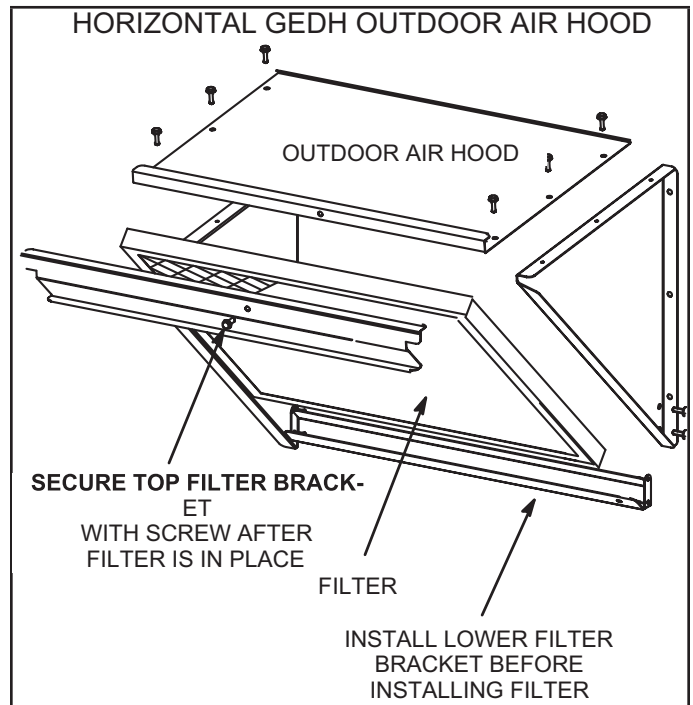

FIGURE 11
- 7 - Install the upper hood on the unit as shown in FIGURE 11